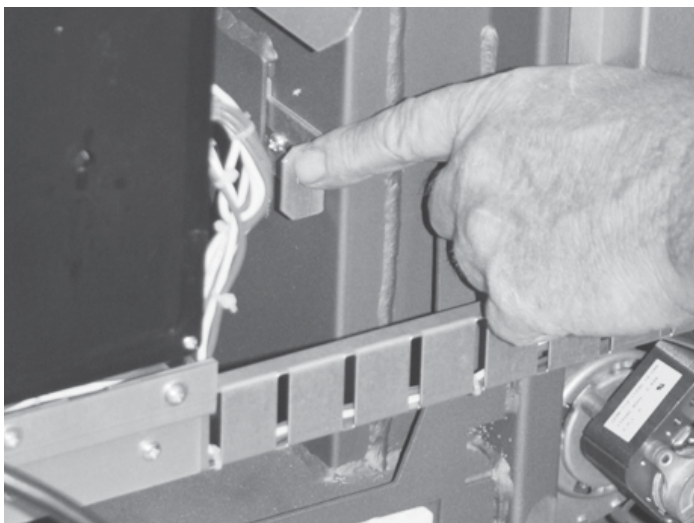

Figure 27
**IMPORTANT NOTE: BEFORE INCREASING THE EXHAUST VOLTAGE, if you are having issues with getting enough air to your fire, FIRST try to adjust the air flow gate. SEE FIGURE 27. This will also adjust the air flow to the stove.**